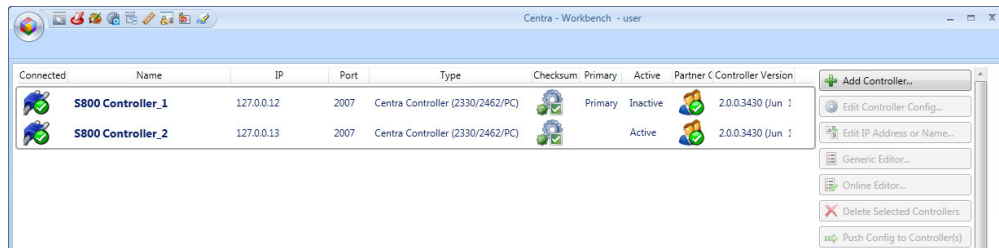

Figure 40 Workbench Controller Screen
13. If the Checksum for the updated controller is displayed as a White Tick in a green box (see Figure 40) then move on to step 15.
- a Select the Active updated Nucleus controller from the Workbench controller configuration screen (see Figure 40).